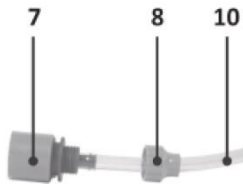
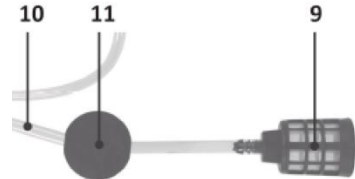

Fig. 3A
Fig. 3B
1. Remove the hose connector ring (8) from the hose connector (7).
2. Place the ring (8) over one of the ends of the hose (10).
3. Insert the same end of the hose into the hose connector, see Fig. 3A.
5. Pass the other end of the hose (10) through the hole in the float ball (11).
6. Push the same end of the hose onto the suction filter (9), see Fig. 3B.